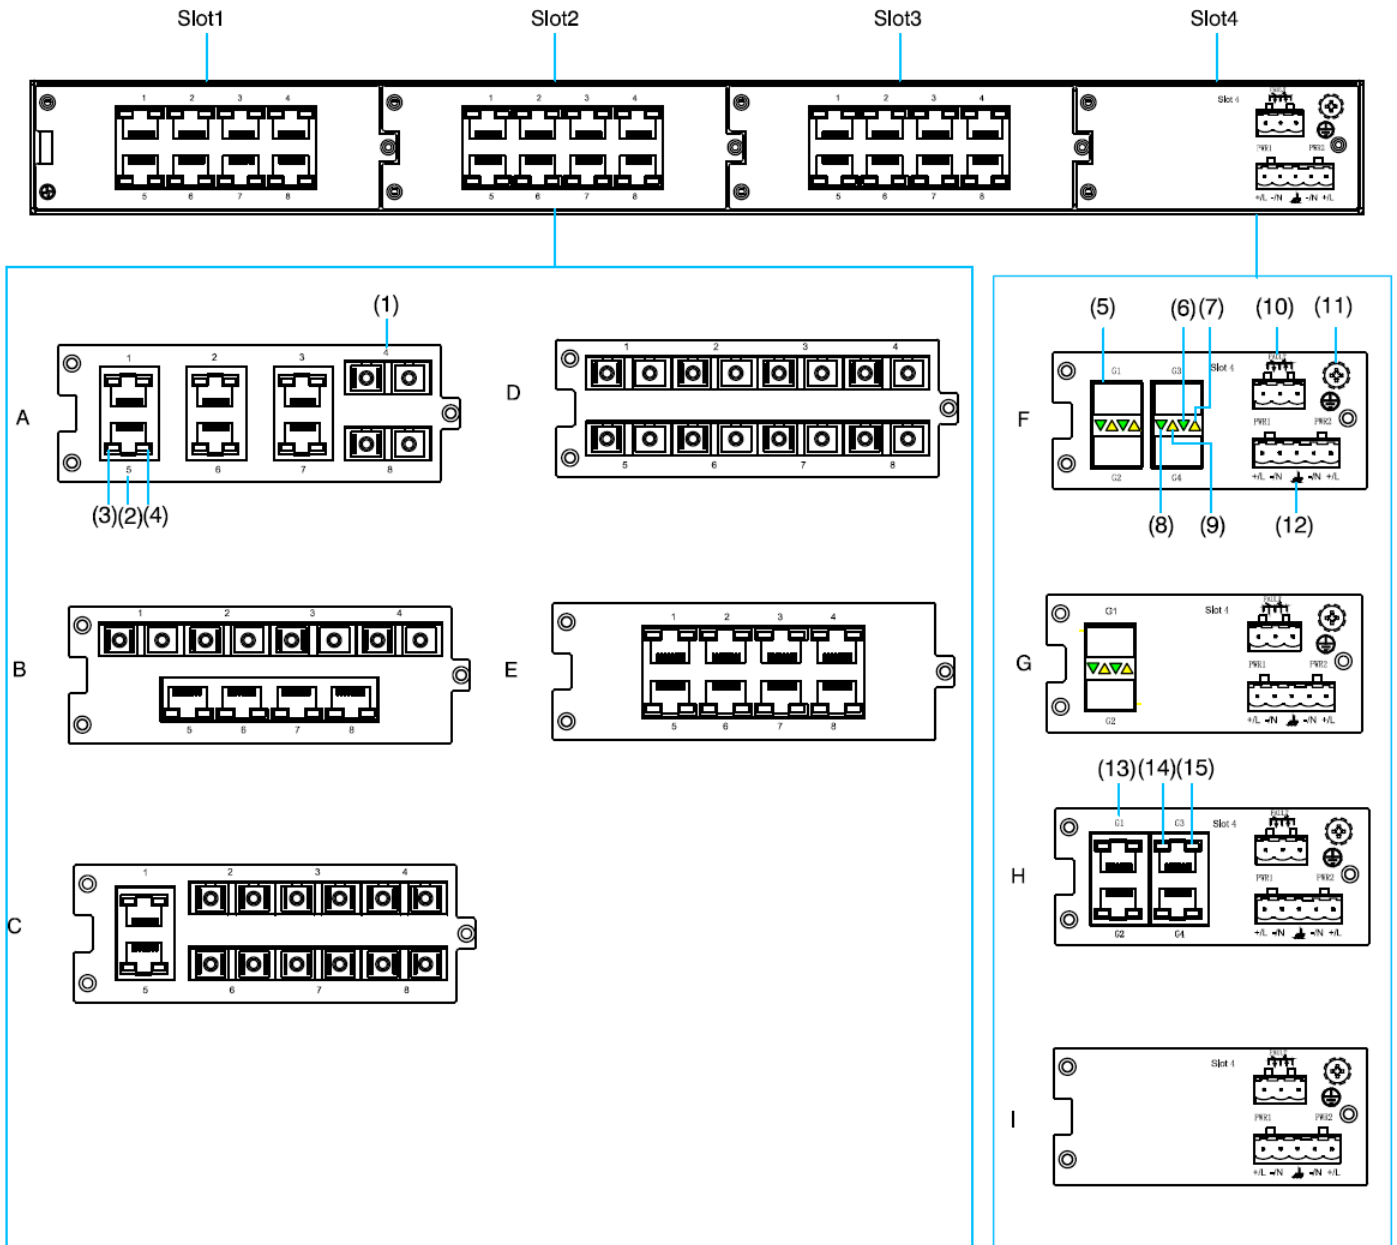

Figure 2 Rear Panel
- Figure 2 shows the rear panel of SICOM3024P. The layout of Slot 1, Slot 2, and Slot 3 can be A, B, C, D, E, and the layout of Slot 4 can be F, G, H, I. The actual layout of these slots depends on the models (as listed in Table 1) you select.
- Panel H can provide four 10/100/1000Base-T(X) Ethernet ports or four 10/100Base-T(X) Ethernet ports. You can find the port type of your device in the software.